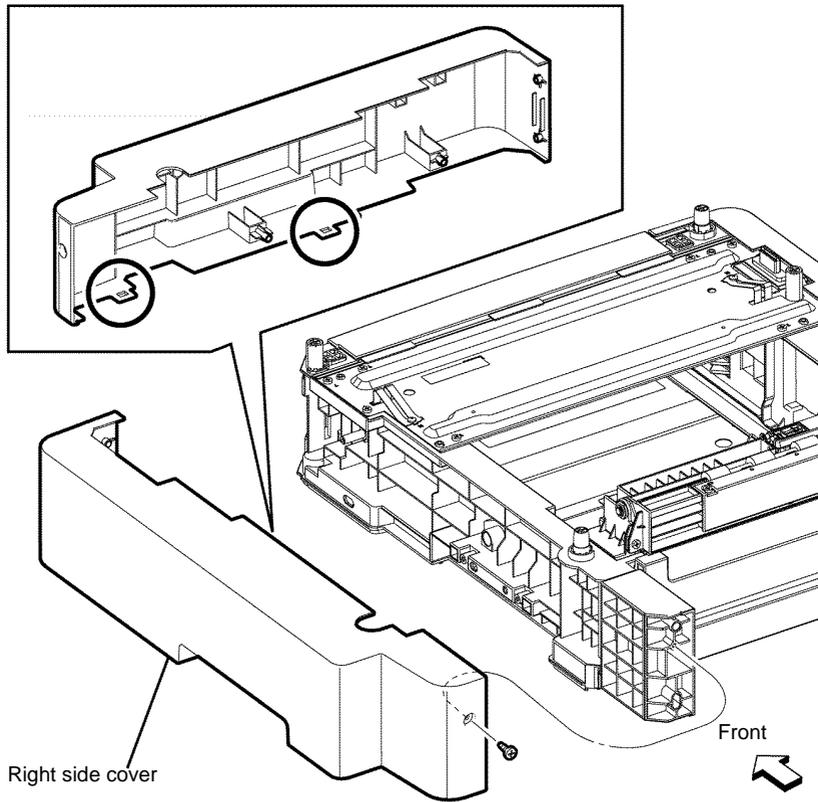

Figure 2 Option feeder right cover removal
- Remove one screw (silver, tapping, 8mm) that fixes the option feeder right cover, release the two hooks from the bosses, release the six bosses from the holes, then remove the option feeder right cover, Figure 2.